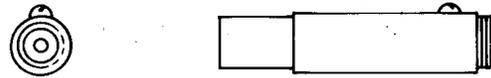

Fig. 21—490A Jack
2.16 490A: This single-mounted jack (Fig. 21) is designed for use with the 358A and similar-type plugs. This jack is not designed for connection to a coaxial cable. At the threaded end, the inner contact terminal is designed for soldered wire connection. The 490A jack is used as part of the J68337E IF Frequency Meter Detector used in the terminal test set of the TD-2 Radio System. The ac test voltage is 2000 volts.